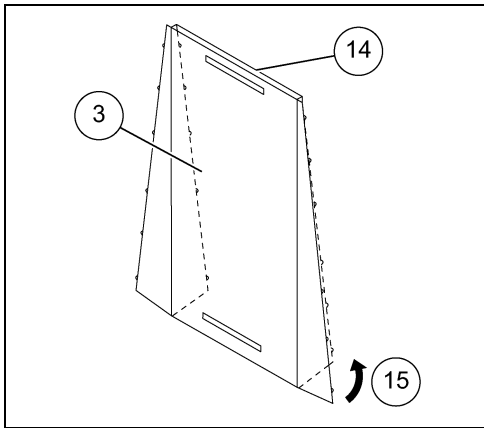

Figure 3G
13. If not already bent, bend the sides of two door covers (3) 90° by hand (15) in the direction of the existing top and bottom bends (14). (See Figure 3G.)